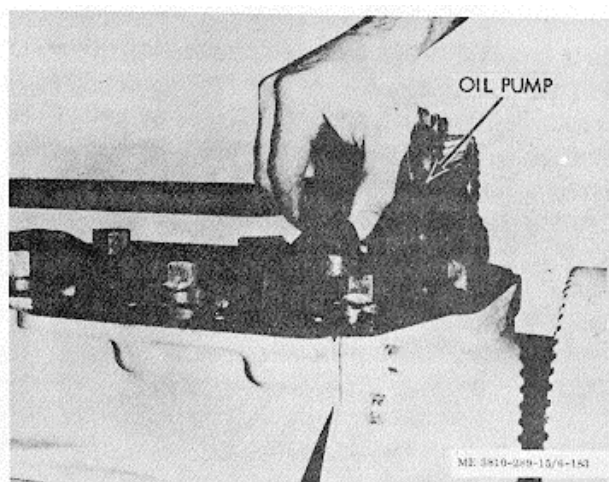

Figure 3-175. Oil pump and suction tube installation.
(1) Assemble suction tube to oil pump with lockplates, capscrews and new gasket; tighten capscrews finger tight.
(2) Attach hanger straps to suction tube bell; screw locknuts to within one turn of being tight.
(3) Position oil pump, suction tube and hanger straps to block, figure 3-175; install mounting capscrews and lockplates; tighten oil pump capscrews securely and lock lockplates.
(4) Tighten strap-to-block capscrews finger tight.
(5) Tighten suction tube-to-pump capscrews; tighten locknuts securing hanger straps to suction tube bell. Tighten hanger straps-to-block capscrews.
(6) Check all capscrews and locknuts; lock all lockplates.
(7) Install oil pan (para 3-35).